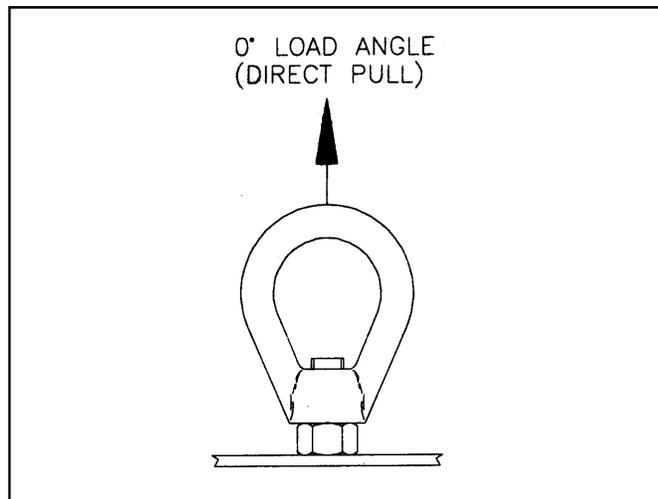

Figure 2. Rigging Point and Load Angle
The EBK-2 Attachment Kit and the EP speaker enclosure are rated for suspending only one speaker (8:1 safety factor). **Hanging any additional weight from the speaker will exceed its strength rating and create an unsafe condition.** Table 2 lists the strength ratings for the 3/8-inch lifting eyenuts with an 8:1 safety factor. The lifting eyenuts are rated for direct pull only (0 degrees) (see Figure 2).
2. Finger tighten eyenut securely (see Figure 2).